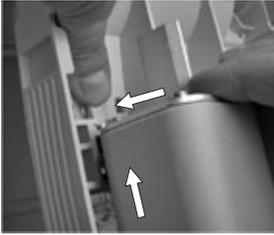
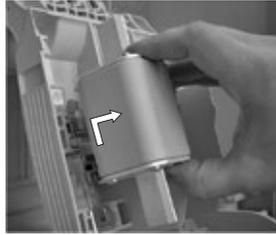

Figure 19
Figure 20
- Press the release button for locking of fuse links (Figure 19) and then withdraw and take out the fuse link from the fuse holder (Figure 20).